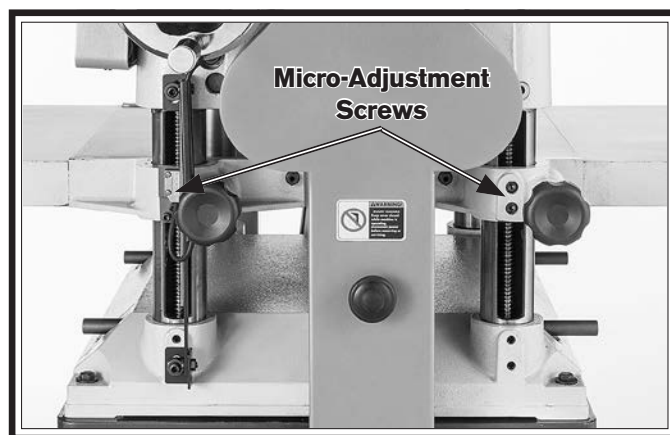

Figure 67. Location of table micro-adjustment screws (only one side shown).
9. If necessary, micro-adjust table position by loosening cap screws (see **Figure 67**) and raising or lowering table until it is properly aligned with cutterhead.